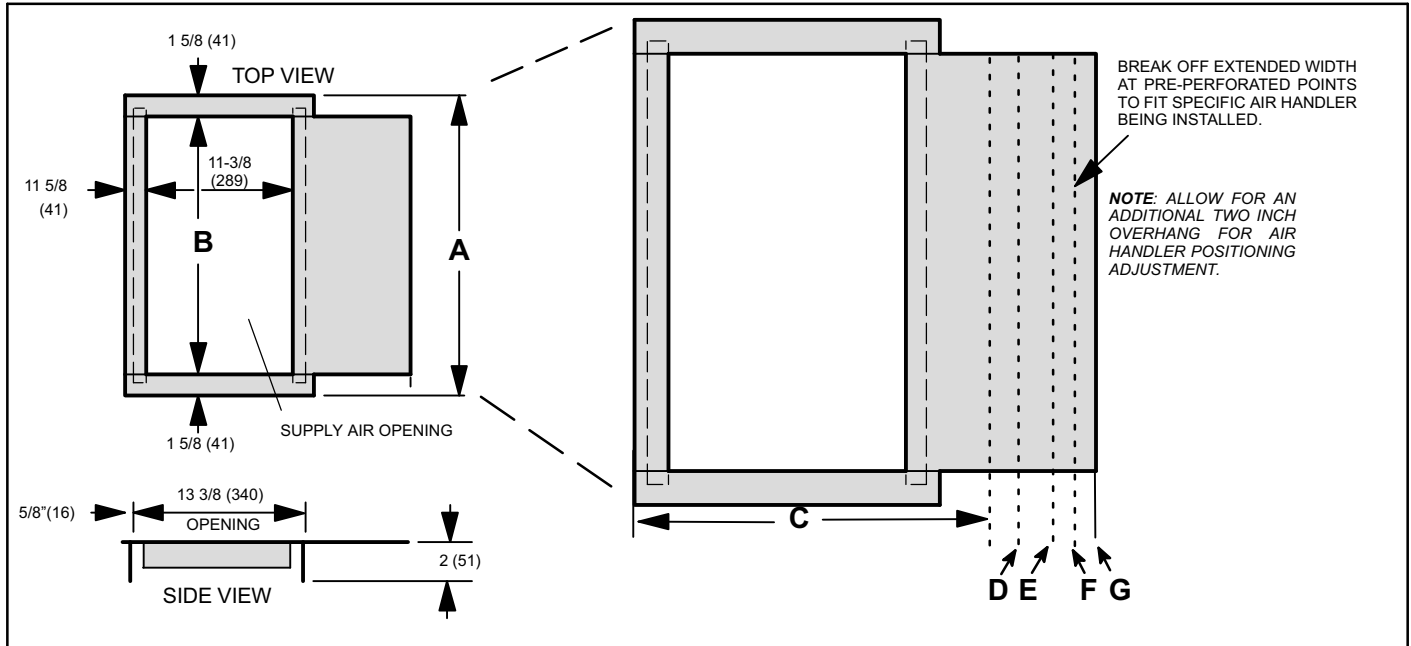

Figure 1. Downflow Combustible Flooring Base Dimensions - inches (mm)
The downflow combustible flooring base assembly is required for all downflow configured air handlers that have an electric heat section installed. Kit number and dimensions are shown in table 1 and figure 1.
1. Cut an opening appropriately sized for the bottom flange of the downflow combustible flooring base (see table 1 and figure 1).
3. Break off extended width (see figure 1) at pre-perforated points to fit air handler and allow for an additional two-inch overhang for positioning adjustment. The entire bottom of the air handler must rest on the downflow combustible flooring base.